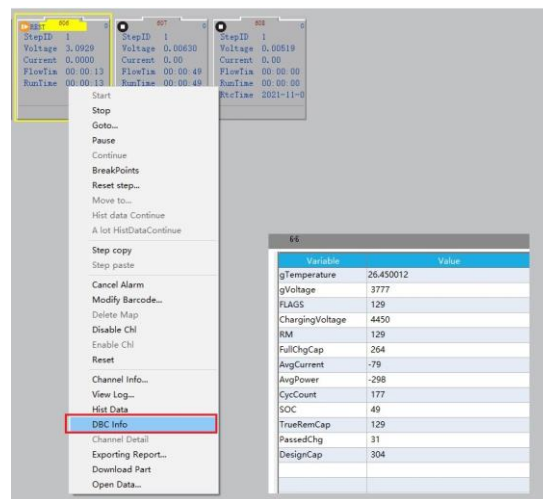

Figure 8-27 DBC Information
2.) After the startup, right-click on the channel and you will see the DBC information column. Click **DBC info** to view the real-time DBC information, Figure 8-27.